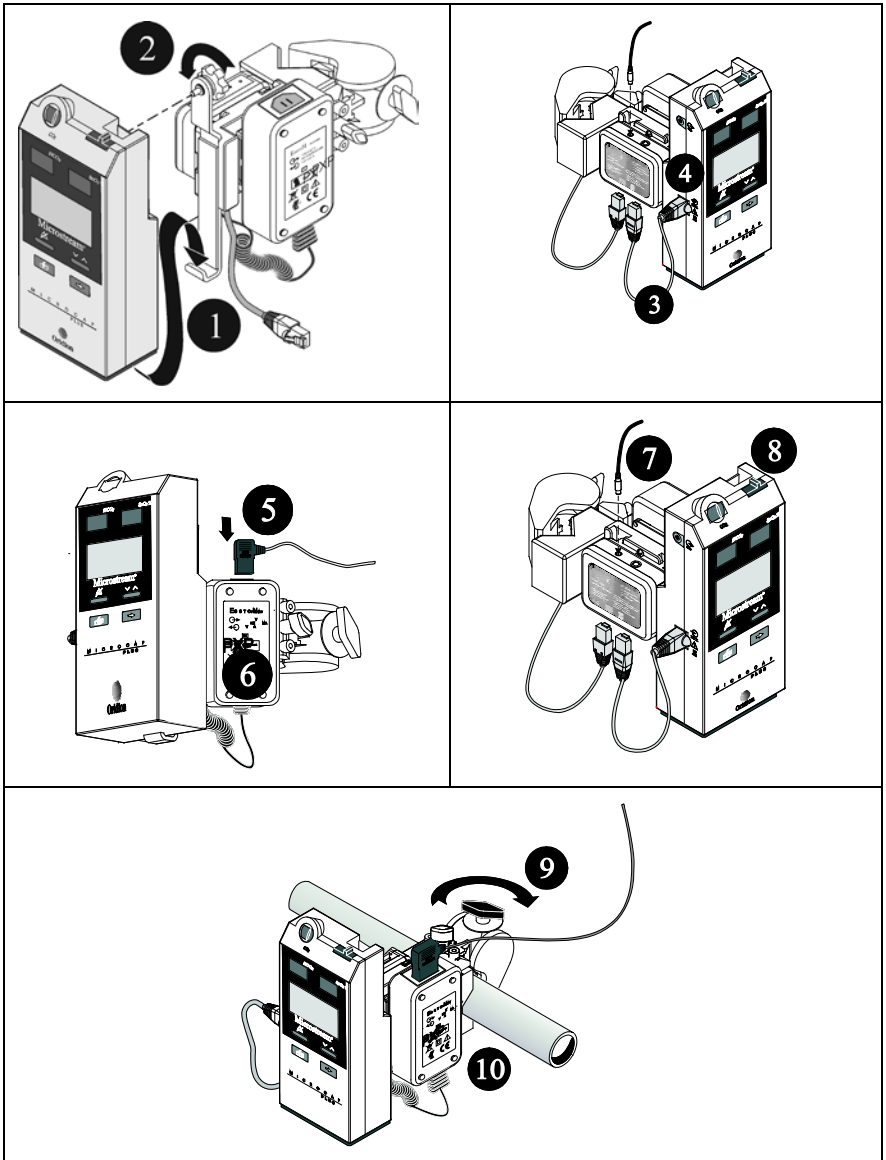

Figure 47. Nurse Call System Setup
1. Using the sketch seen in Figure 47. Nurse Call System Setup on page 73 as a guide, mount the monitor on the designated groove (1) on the Mounting Clamp and securely screw the monitor to the Mounting Clamp (2).
2. Insert the unattached end of the blue connector (3) originating from the Interface Adapter into the monitor jack (4).
3. Connect the AC power cord (5) to the AC Adapter (6) and plug the unattached end of the line cord into the electrical wall socket.
4. Insert the stereo phono jack cable into the Interface Adapter (7) and turn on the monitor (8).
6. To attach the Mounting Clamp to a support, turn the Mounting Clamp screw (9) counter-clockwise until the pads are completely secured around the support (such as a bed, post, or shelf). Position the Mounting Clamp jaws (10) around the support and turn the clamp screw until the pads tightly grip the support.